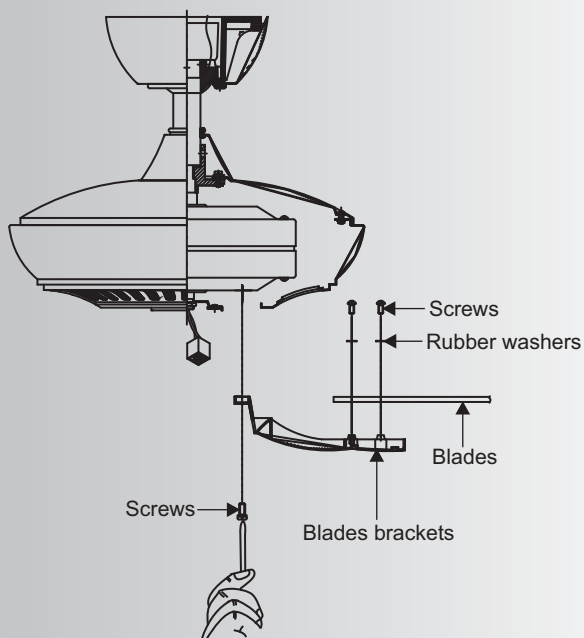

Fig. 14
**Step 1.** Attach blades to blade arm using the screws with rubber washers provided. (Fig. 14)
**Step 2.** Attach each blade assembly to the motor using the "Pre-Installed" mounting screws in the blade bracket. (Fig 14)